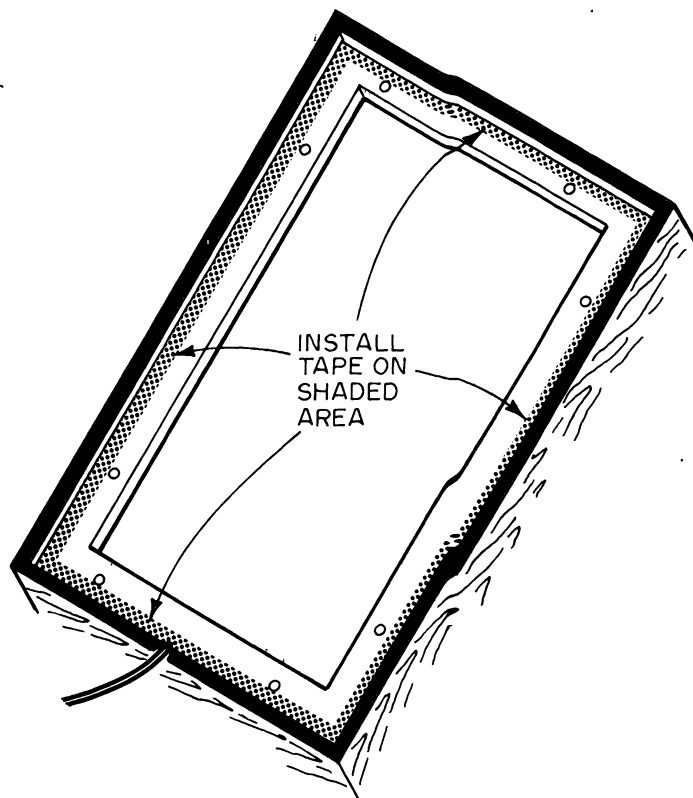

FIGURE 4 – INSTALLING TAPE
11. Apply a strip of tape provided, to the surface of the back, remaining in the enclosure, against which the replacement back will rest (See shaded area in Figure 4). This tape *must* be used to prevent air leaks.